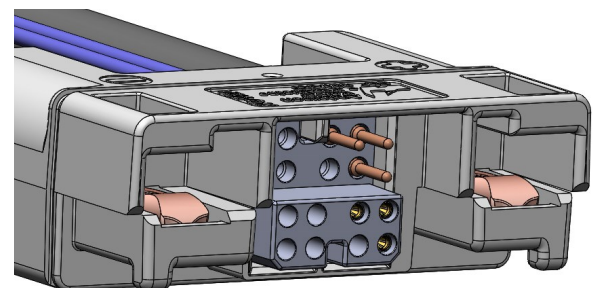

Figure 4
4. Install the auxiliary module into the main housing. The module installs from the back in the orientation shown. Push the module forward until it hits the housing stop. Then install the retention pin until flush (Figure 4)